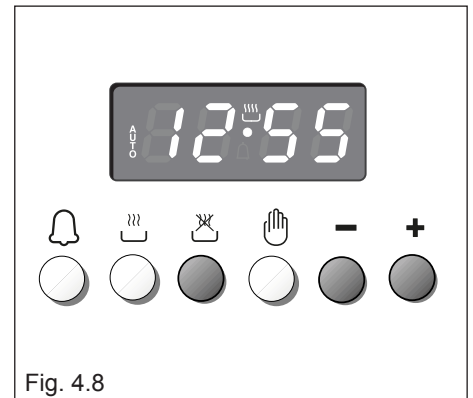

Fig. 4.8
2. Set the end of the cooking time by pushing the  button and the  button to advance, or  to go backwards if you have passed the desired time (fig. 4.8).